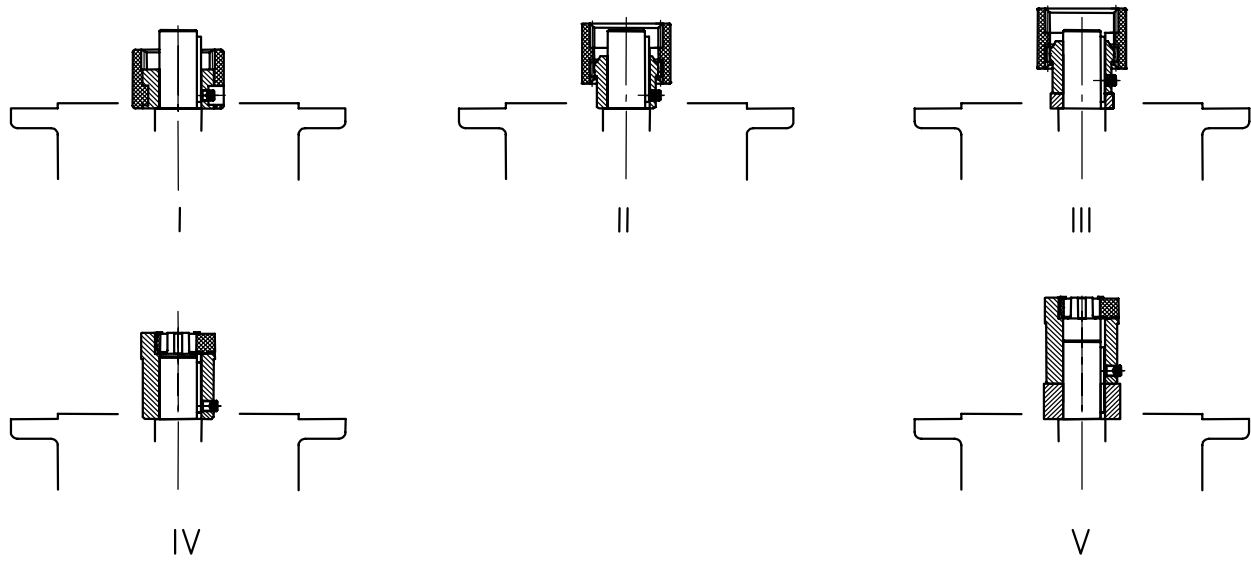

Figure 11. Fitting the Coupling
6. Mount the motor to the IEC /NEMA adapter, do not forget to fit the gear rim or the sleeve. (See Figure 11)